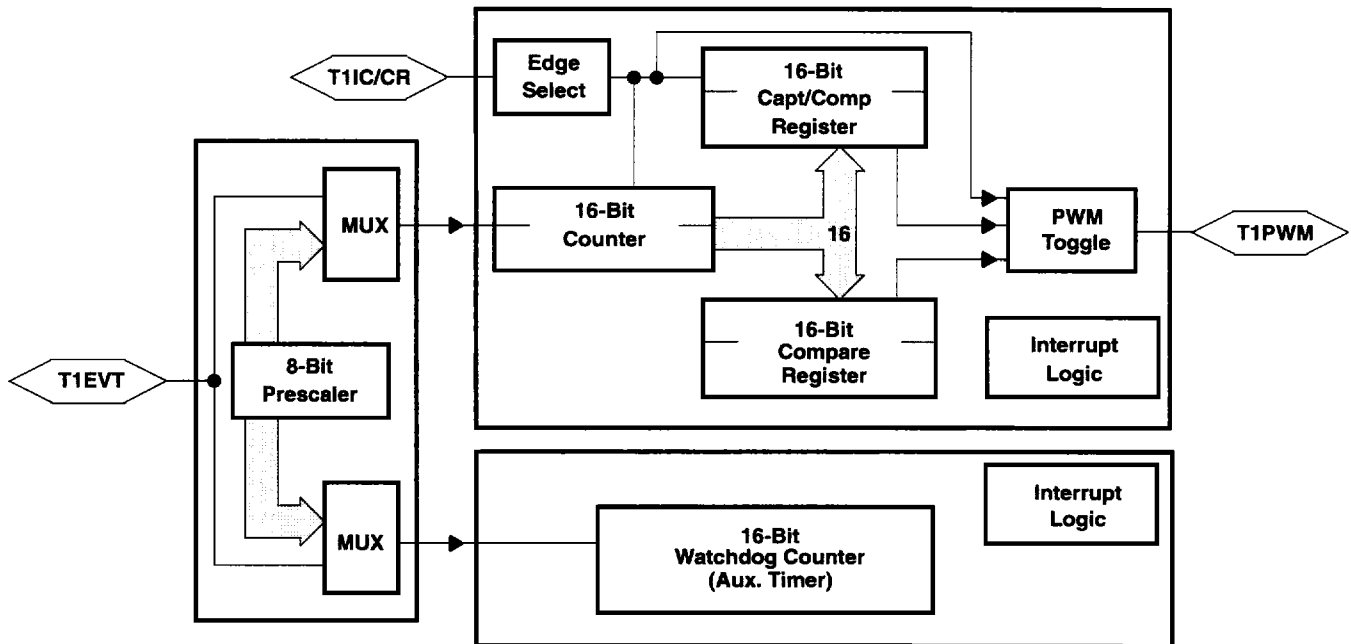

Figure 5. Timer 1 Block Diagram
The programmable timer 1 (T1) module of the TMS370CxBx provides the designer with the enhanced timer resources required to perform real-time system control. The T1 module contains the general-purpose timer and the watchdog (WD) timer. The two independent 16-bit timers, T1 and WD, allow program selection of input clock sources (real-time, external event, or pulse-accumulate) with multiple 16-bit registers (input capture and compare) for special timer function control. The T1 module includes three external device pins that can be used for multiple counter functions (operation-mode dependent) or used as general-purpose I/O pins. T1 module is shown in Figure 5.